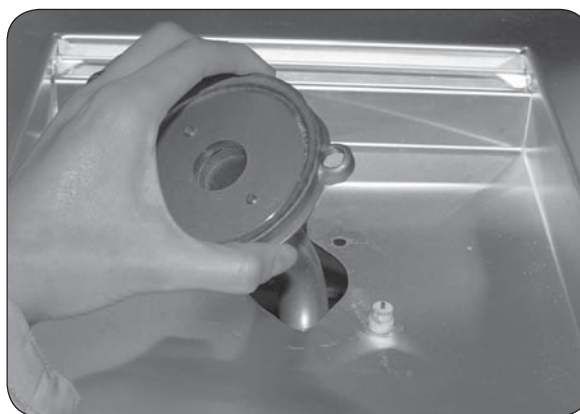
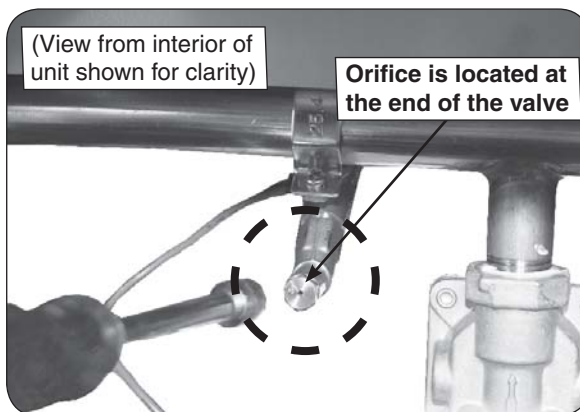

Fig. 16-2 Remove burner
Fig. 16-3 Orifice location
4. Remove the burner cap and carefully lift the burner up and out, clearing the ceramic electrode (see Fig. 16-2), and pulling the burner tube away from the orifice, located on the end of the orifice holder on the left side of the unit (see Fig. 16-3).
5. Using a $\frac{3}{8}$ " socket, remove orifice from the orifice holder (see Fig. 16-3) and check the number stamped on the orifice face.